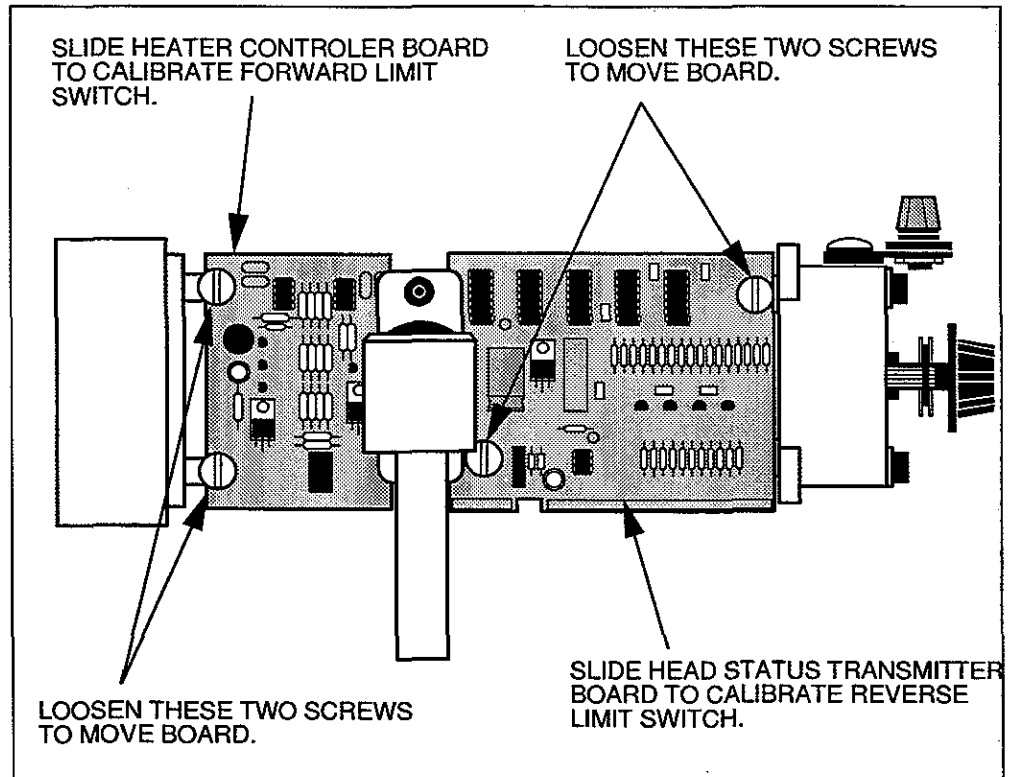

Figure 6-5
1. Position the powerhead sideways in such a way that the pot mounting bracket is facing downward. See Figure 6-5.
5. Place the other end of the string on a spring scale and apply a 2 1/2 lb. force. See Figure 6-5.
2. Loosen (but don't remove) the two screws holding the Status Transmitter Board in the powerhead (see Figure 6-5). While repeatedly pressing the No key, turn the piston control knob until the System Display reads:
2. Loosen (but don't remove) the two screws holding the Heater Controller Board in the powerhead (see Figure 6-5). Repeatedly press the No key and turn the piston control knob until the System Display reads